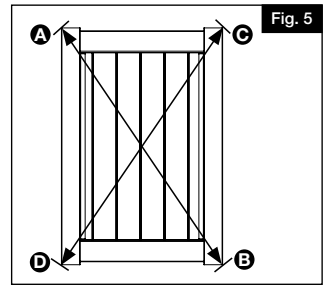

Fig. 5
Ensure the door is square. Measure diagonally from top of left corner rail (A) to bottom of right corner rail (B) and note the length. Then, measure diagonally from top of right corner rail (C) to bottom of left corner rail (D). Note the length. Make sure both measurements are the same before installing screws into uprights (Fig. 5)
- Place U-Channel vertically on edge of tongue and groove board #1 and #7 (Fig. 5).